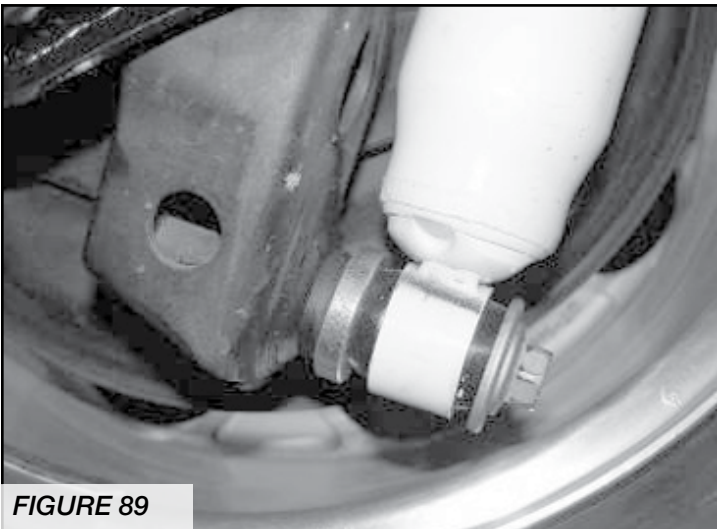

FIGURE 89
57. Install the new Fabtech shocks FTS7237 (not included with the kit) and FT83239 Shock Spacer with the factory hardware and supplied shock sleeve. Install the spacer onto the lower shock mount and follow with the shock and factory hardware. Torque upper and lower bolts to 53lbs. **SEE FIGURE 89**